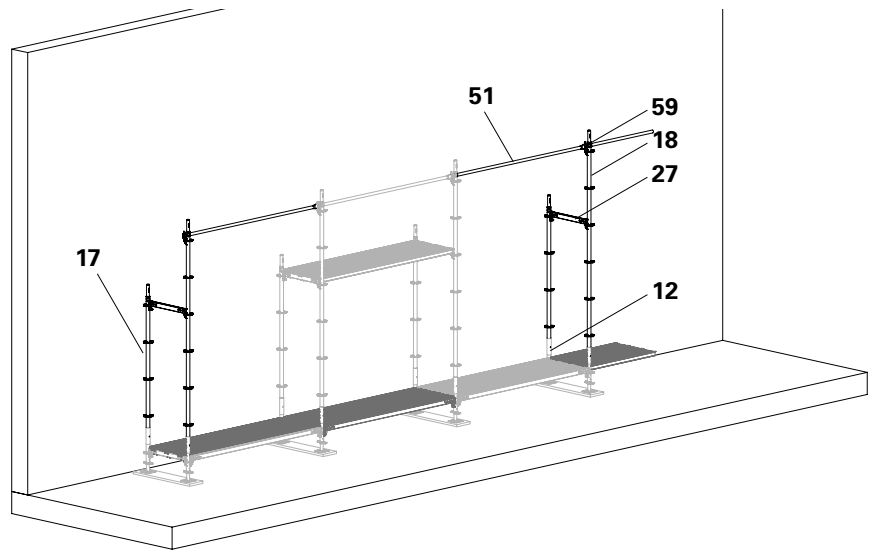

Fig. B3.03
8. Connect standards (**17 + 18**) to the horizontal ledgers (**27**) at the deck level. Secure the wedges. (Fig. B3.03)